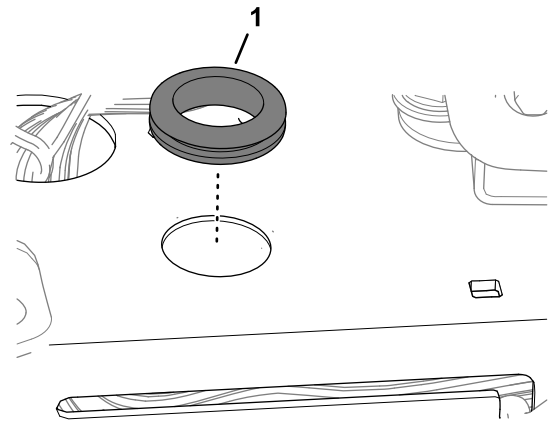

Figure 84
8. Install the grommet into the hole (Figure 84).